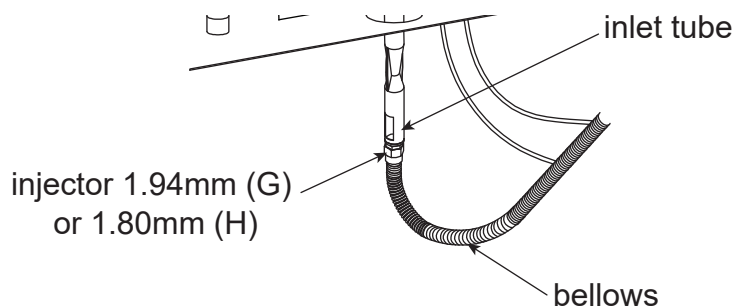

Figure 4
- (2). Replace the injector 2.05mm with the injector 1.94mm (G) or 1.80mm (H), screw the injector (G) or (H) to the bellows tightly (see Figure 4).